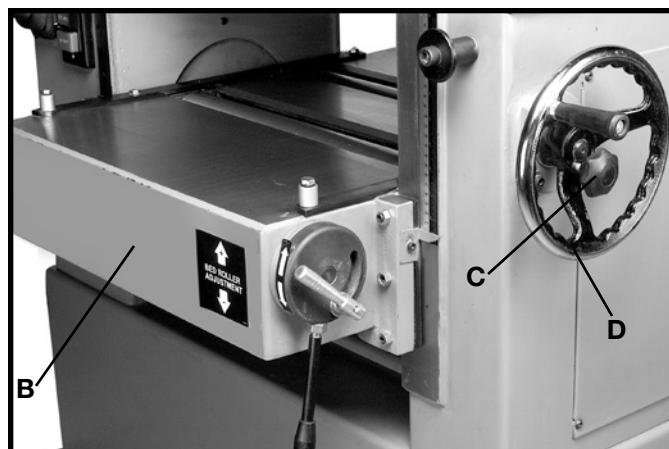

Fig. 4
If it is necessary to lower the table (B) Fig. 4, to facilitate cleaning, loosen lock knob (C) and turn handwheel (D) counterclockwise until the table (B) is at the desired height for cleaning.